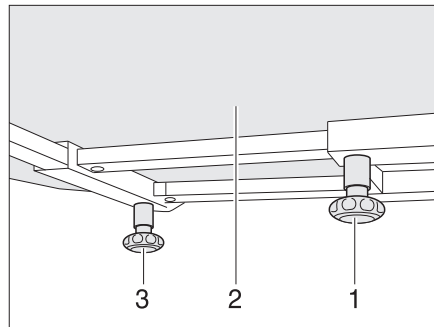

Fig. 97 Fixed table
- Loosen knurled screw (Fig. 97,1).
- Move table-top (Fig. 97,2) to the desired position.
- Loosen knurled screw (Fig. 97,3).